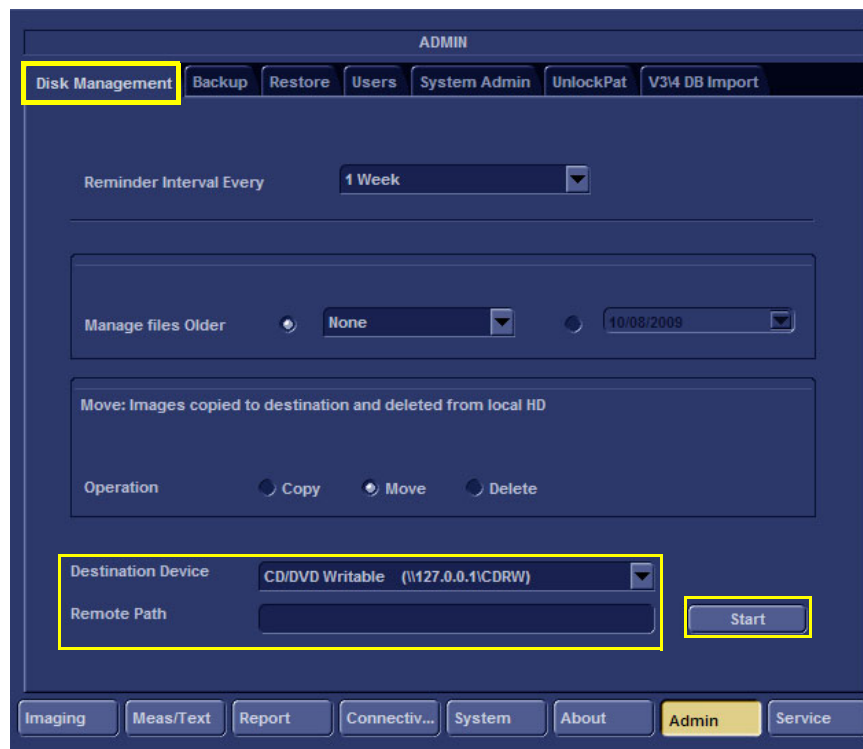

Figure 8-136 Admin Screen
- 6.) Click the **Disk Management** tab at the top of the screen - see Figure 8-136.
- 8.) Under Destination Device (see Figure 8-136), select the required media device.